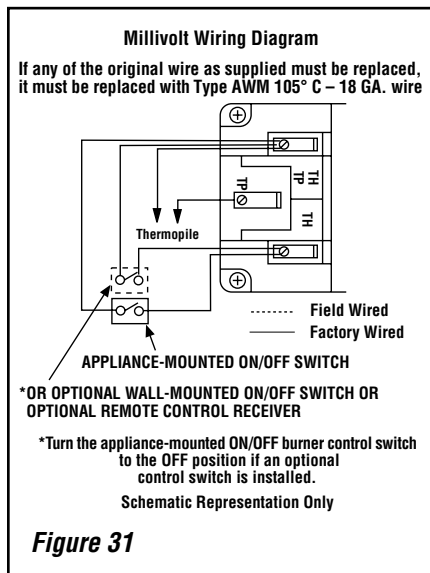

Figure 31
A. Millivolt Wiring (See Figure 31) –